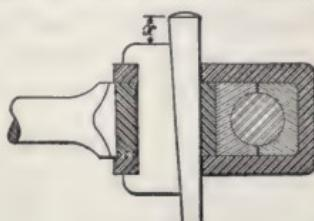

FIG. 39.
**EXAMPLE.**—In Fig. 39, the key has been driven home until the brasses nip the pin; it has been determined to run the brasses with a clearance of  $\frac{1}{64}$  inch; how much must the key be backed out, its taper being  $\frac{1}{4}$  inch per foot?